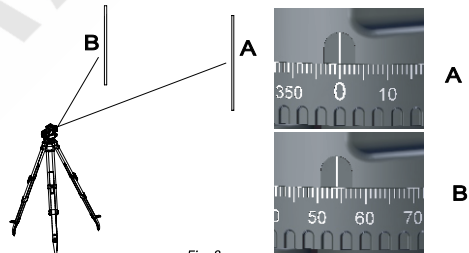

Fig. 8
- Direct instrument to staff A and turn Horizontal Circle to "0" (fig. 8)